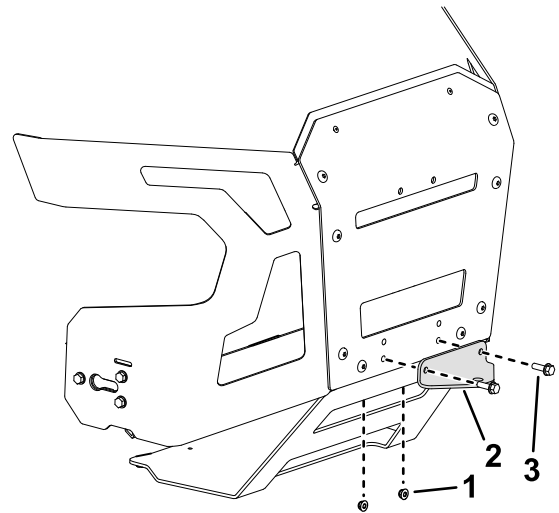

Figure 12
- Remove the existing 2 bolts, 2 nuts, and hitch bracket from the bottom of the rear guard (Figure 12).